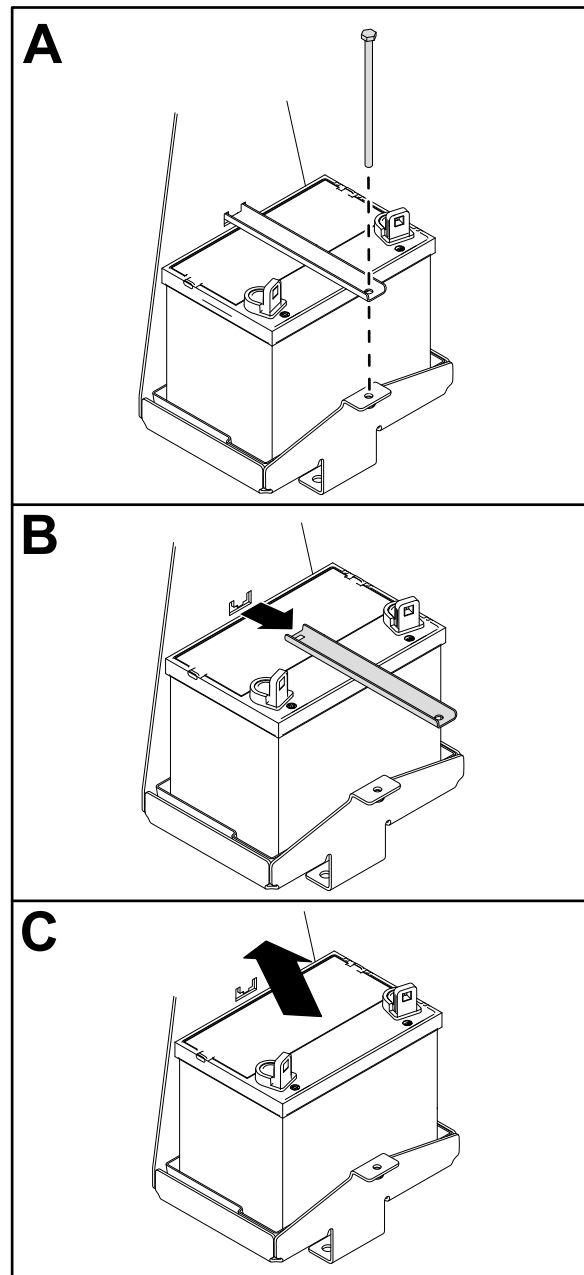

Figure 38
2. Remove the battery as shown in Figure 38.